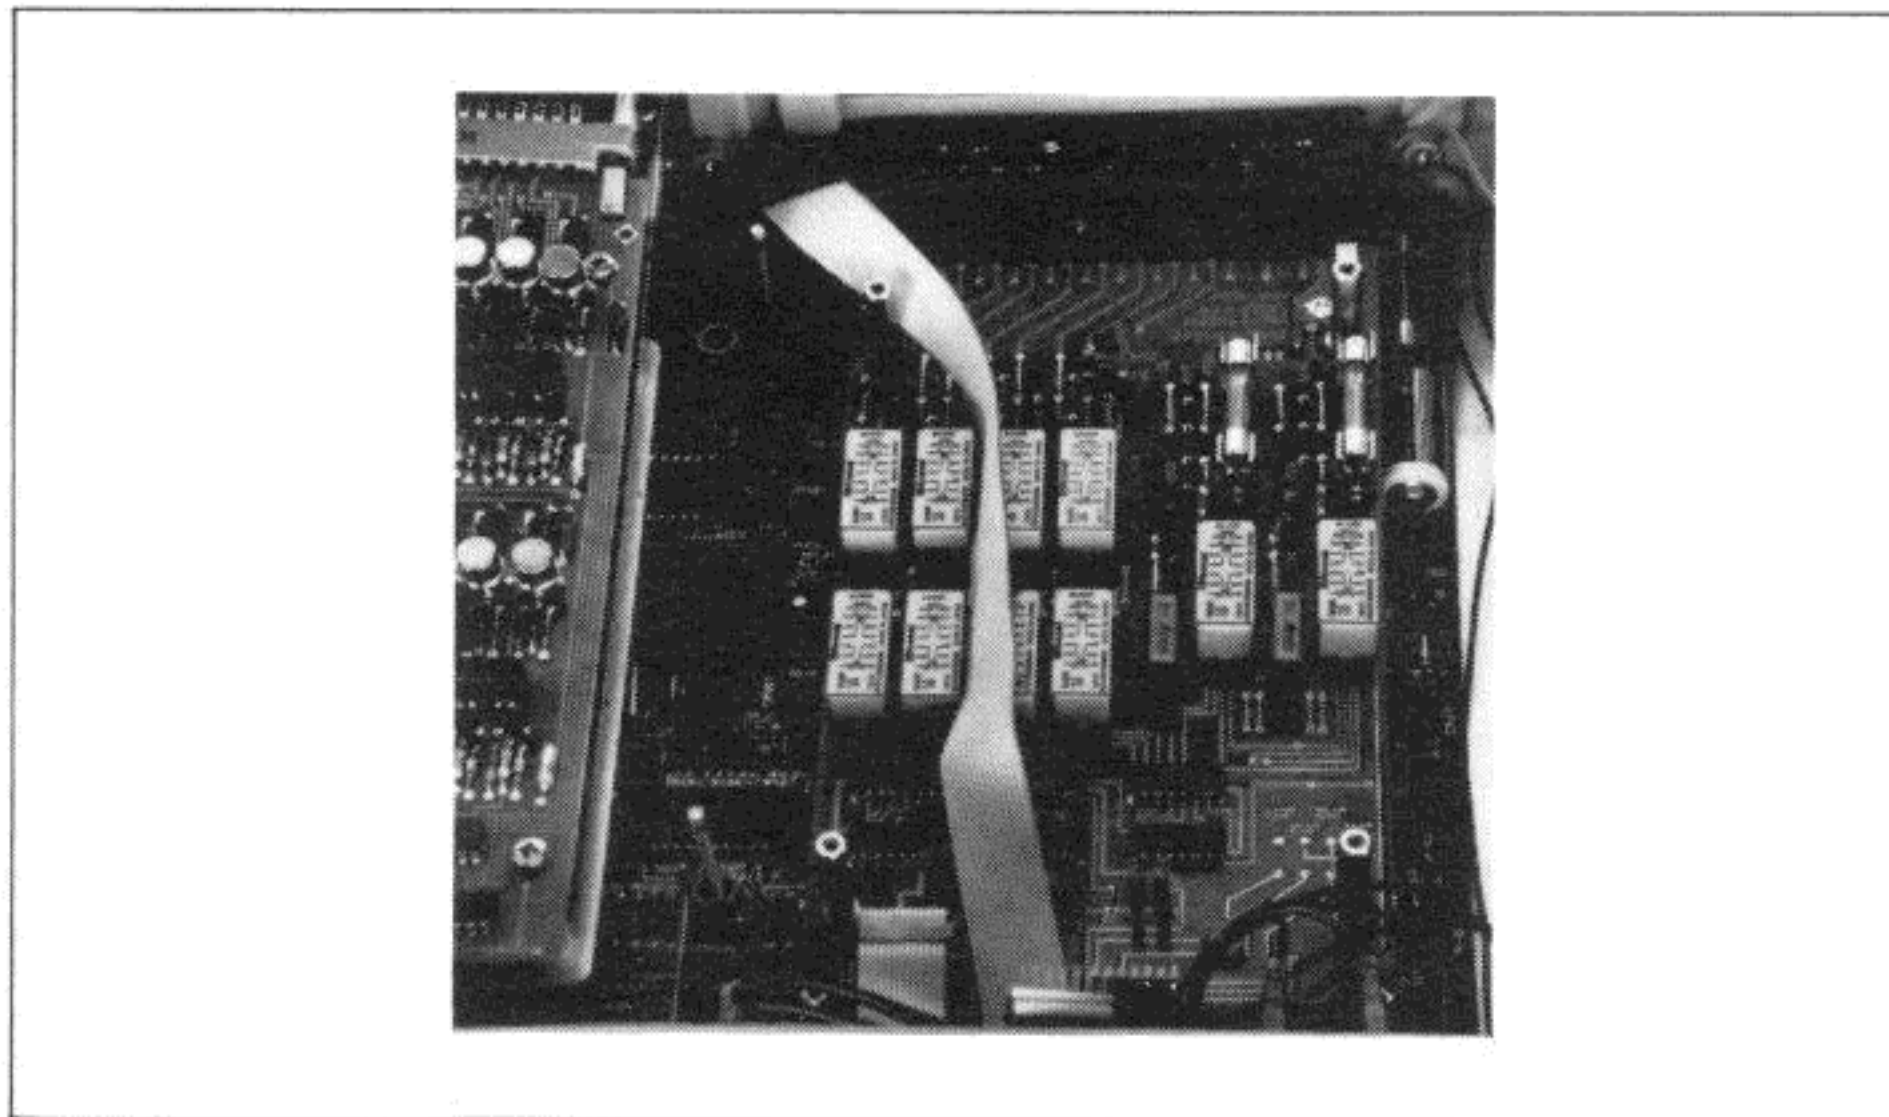

Figure 1-8-16. Slot 1 Option Cable Routing
v. Route the ribbon cable from J501 on the motherboard across the slot 0 option as shown in Figure 1-8-16. Make sure the red stripe is oriented to the right (pin 7 of the motherboard connector).